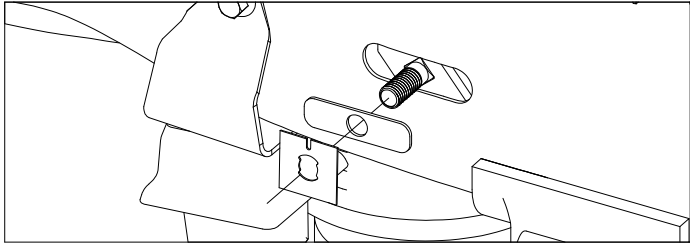

Figure A11: View looking into driver side wheel well.
**14. Install rear carriage bolt.** Pass the carriage bolt and locking strap into the frame through the forward mounting slot and pull the fish wire until the threaded end of the carriage bolt is through the locking strap and has passed out of the rear mounting slot. Install a rectangular frame spacer onto the carriage bolt and place it into the slot in the frame. Install a retainer onto the carriage bolt until it is snug, see Figure A11.